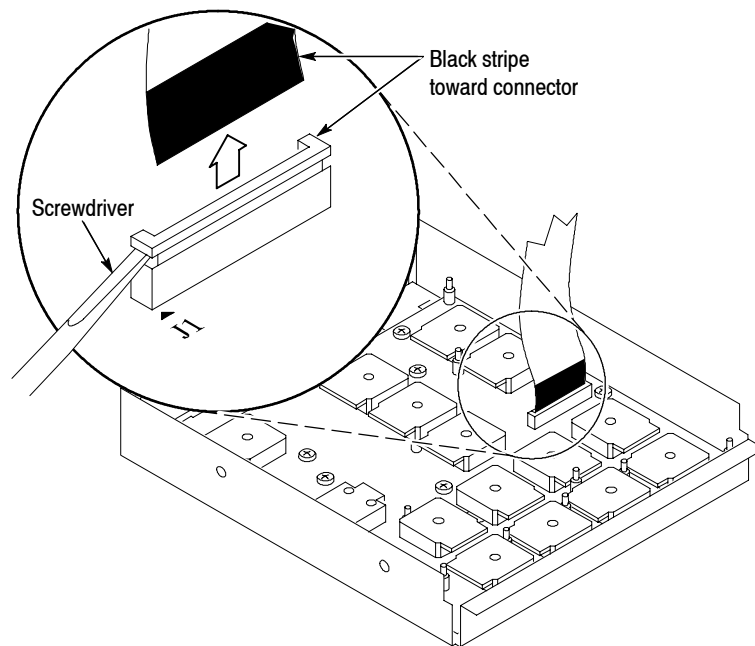

Figure 10: J1 flex cable connector removal
4. Use the $\frac{1}{8}$ inch flat-bladed screwdriver to carefully lift the J1 cable connector lock up to disconnect the J1 flex cable from the display module assembly. See Figure 10 on page 13. Note the pin 1 index mark on the connector and the black stripe on the cable for later reassembly.